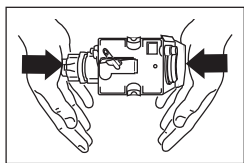

Fig. 43
**Note:** If the brewing unit is difficult to insert, you must first adapt it to the right dimensions by pressing it forcefully from the bottom and top (Fig. 43).